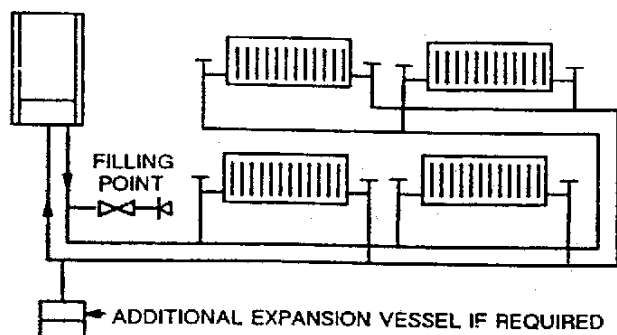

Fig. 4 TYPICAL SEALED SYSTEM
5. GUIDE TO SYSTEM REQUIREMENTS (Figs.4 & 8)
If the capacity of the central heating system should exceed 120 litres, an additional vessel should be installed on the return to the combination boiler from the heating system (Fig. 4). Guidance on vessel sizing is given in Table 3.